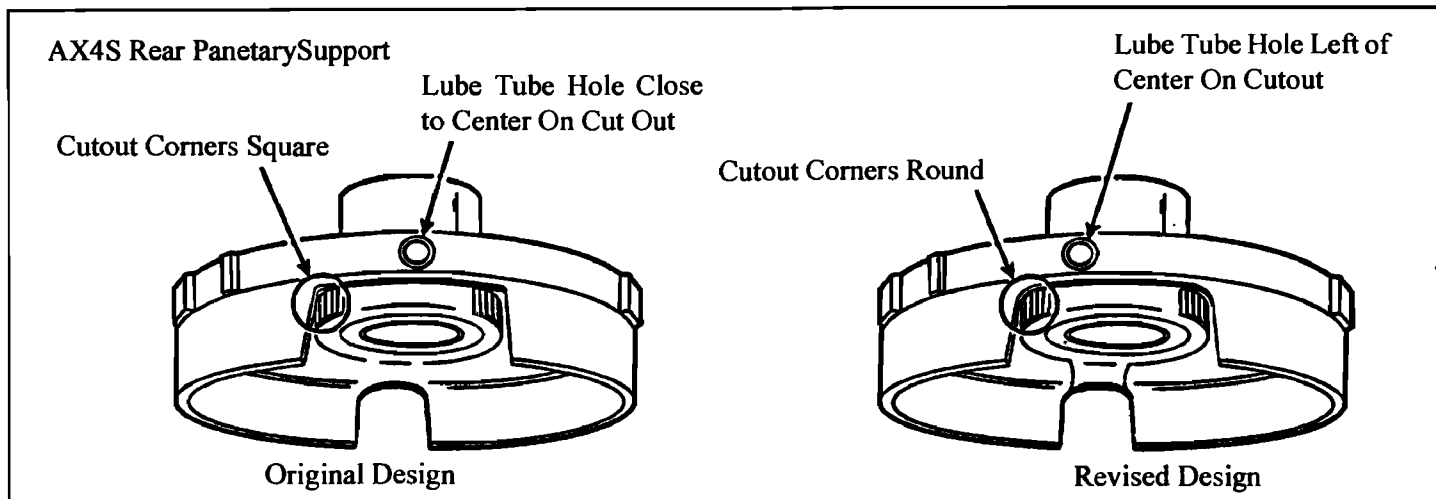

Figure 14
- Figure 14-Rear Planetary Support (AX4S only)
- 4 One part that may be more difficult to identify would be the rear planetary support on the AX4S transaxle only, refer to Figure 14.